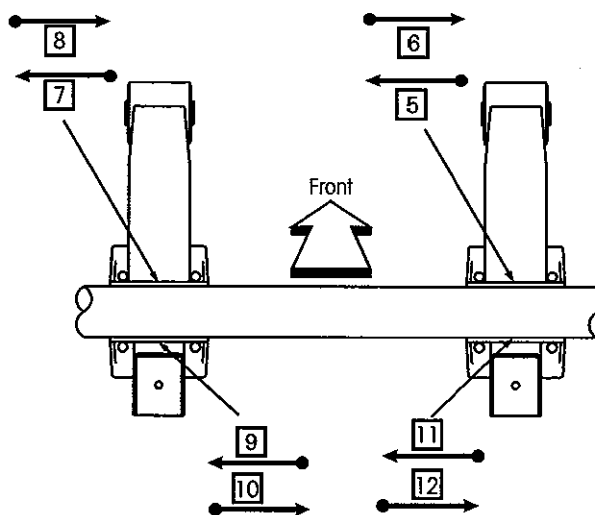

Figure 7: *Second and third pass weld sequences*
2. Continue with the second and third weld passes after all four root passes, Figure 7.